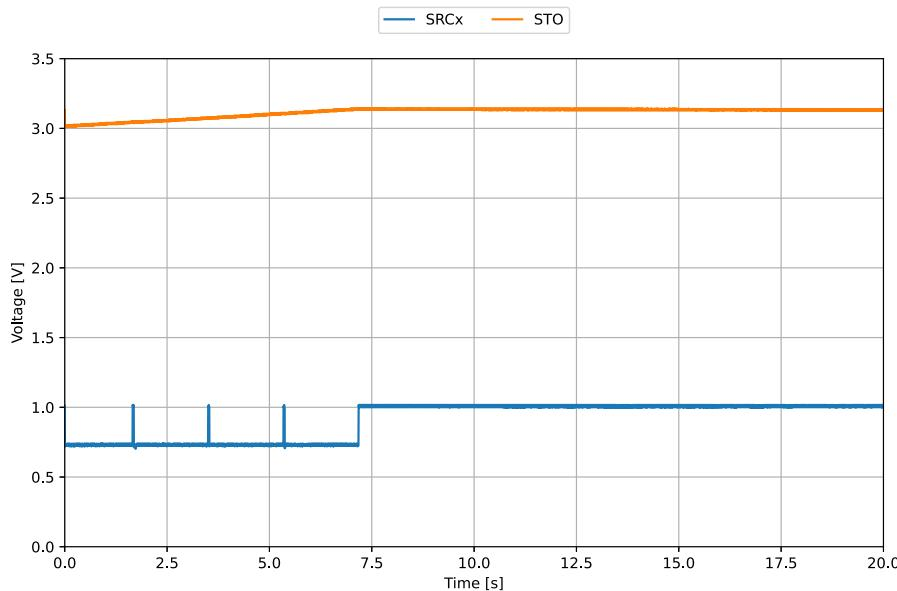

Figure 6: Storage element thermal protection behavior
- When R_{TH} is hot enough, above 45°C (near 7 s on Figure 6), the AEM13921 thermal protection is triggered: